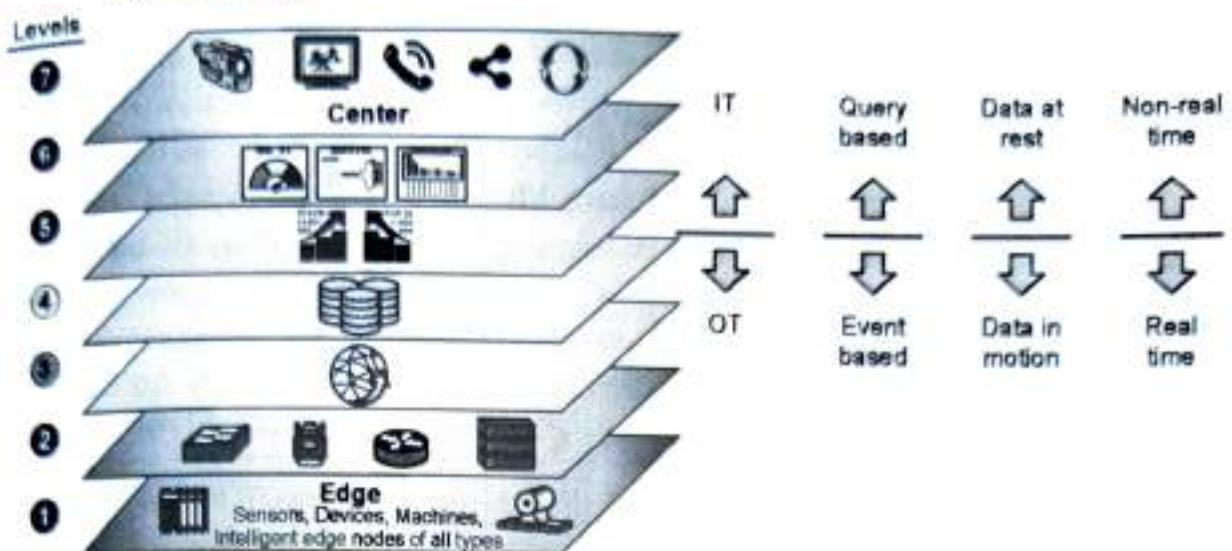

Fig. 2.3.5 : A differentiation point between IT and OT in the IoT Reference Model framework
- As Shown in Fig. 2.3.5 IoT systems have to cross many boundaries beyond the functional layers.